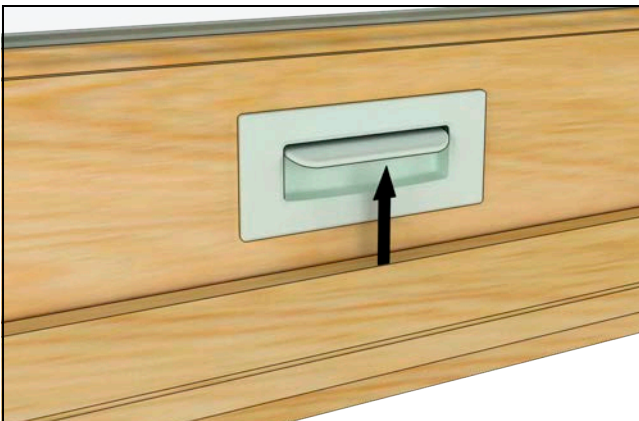
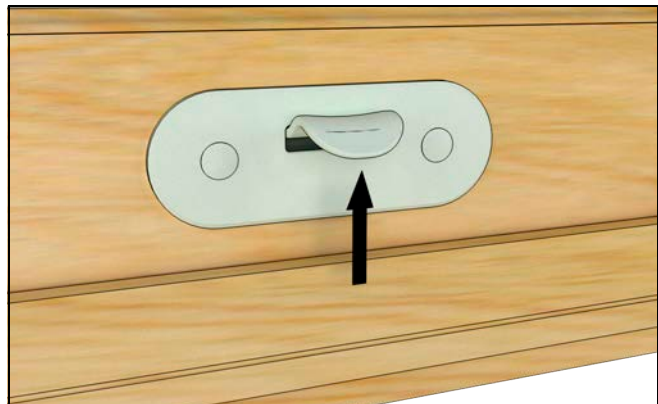

Figure 94
Figure 95
1. To unlock, lift up on the Lift Lock handle. See Figure 94 or Figure 95.